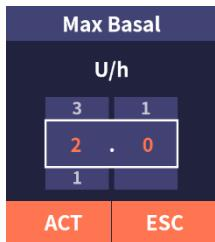

Figure 4.7
(1) Click "Max Basal" to open the setting interface (as shown in Figure 4.7). Scroll up and down to set the max basal. Click "ACT" to save and exit, or click "ESC" to exit without saving.